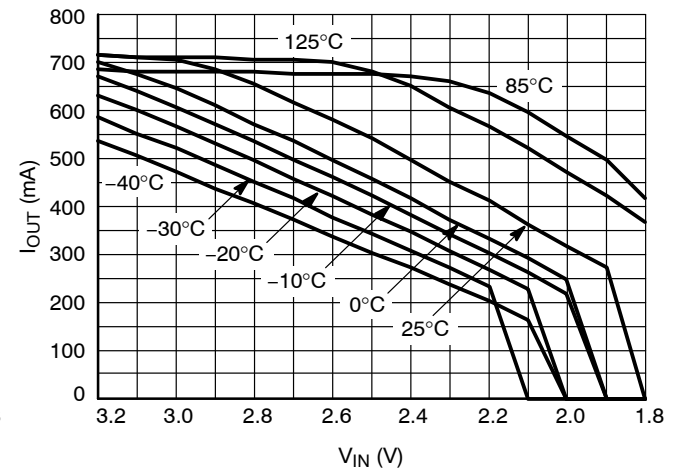

Figure 22. Output Current Capability for the 1.5 V Version
28. For output current capability for $T_A < 0^\circ\text{C}$, please refer to Figure 22.